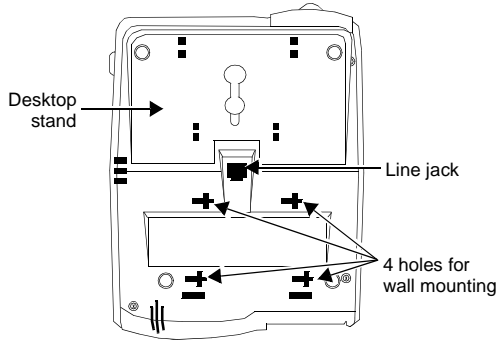

Figure 2. The Bottom of the 6200 Series Telephones
1. Turn the telephone upside down so that you can see the bottom of the telephone. See Figure 2.